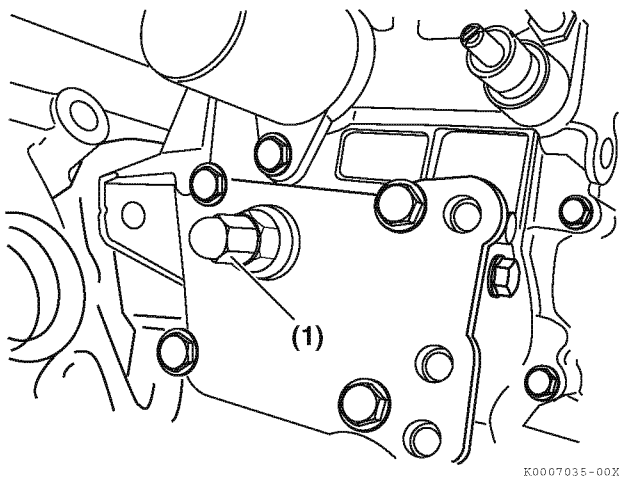

Figure 7-36
2. After the engine has reached operating temperature, remove the cap nut (Figure 7-36, (1)).